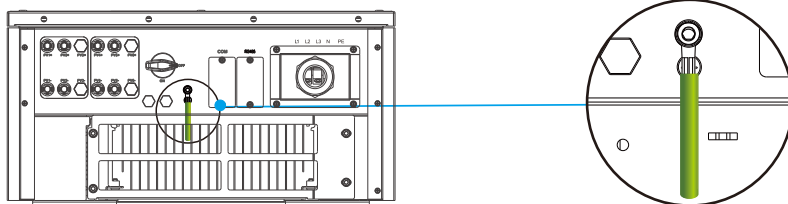

Figure 5.3 Securing the PGND cable
Step 3 Secure the PGND cable (done by step1 & 2) using the ground bolts and tighten the bolts with a torque of 1.2 N.m using a socket wrench, as shown in Figure 5.3.